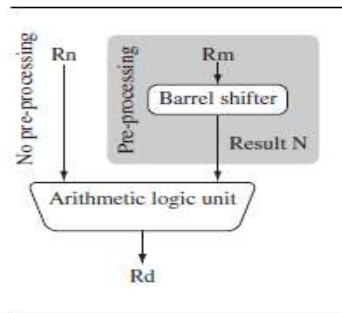

Figure 3.1 Barrel shifter and ALU.
- To illustrate the barrel shifter we will take the **example in Figure 3.1 and add a shift operation to the move instruction example.**
- Register  $Rn$  enters the ALU without any preprocessing of registers. Figure 3.1 shows the data flow between the ALU and the barrel shifter.